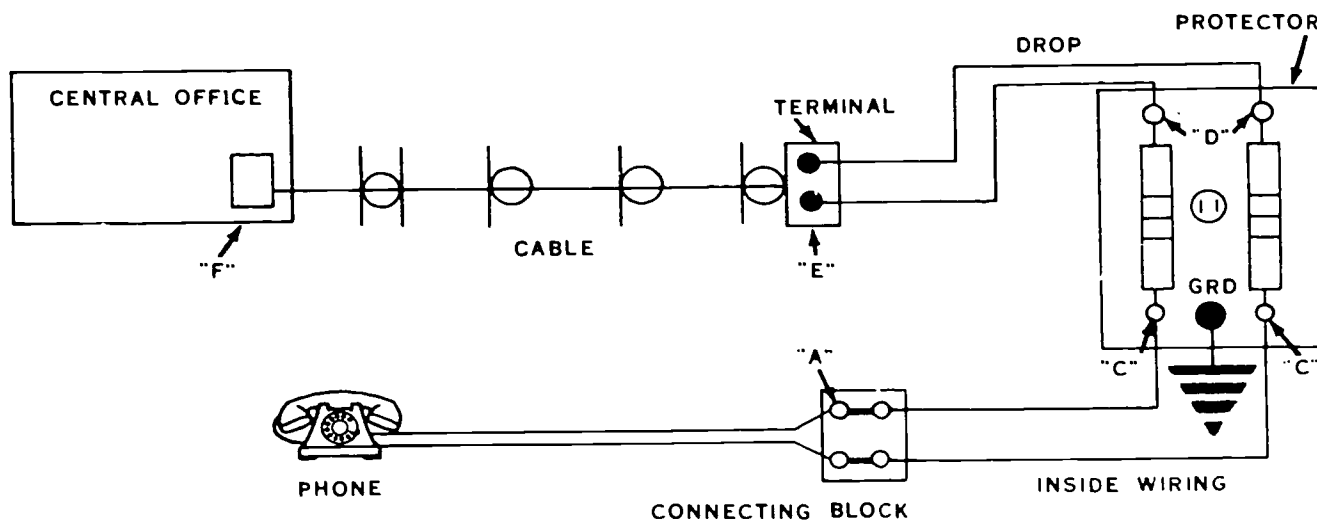

Figure 5-12. Subscriber's loop, test points.
Now, let's consider the subscriber's loop isolation test. To carry out this procedure, make the first test at the station protector and then proceed in the direction of the trouble to the next convenient test point. Figure 5-12 illustrates typical test points.
2. If a test at the central office shows the proper potentials yet the test at the building protector shows incorrect potentials, what should be your next test point? (See text fig. 5-12.)